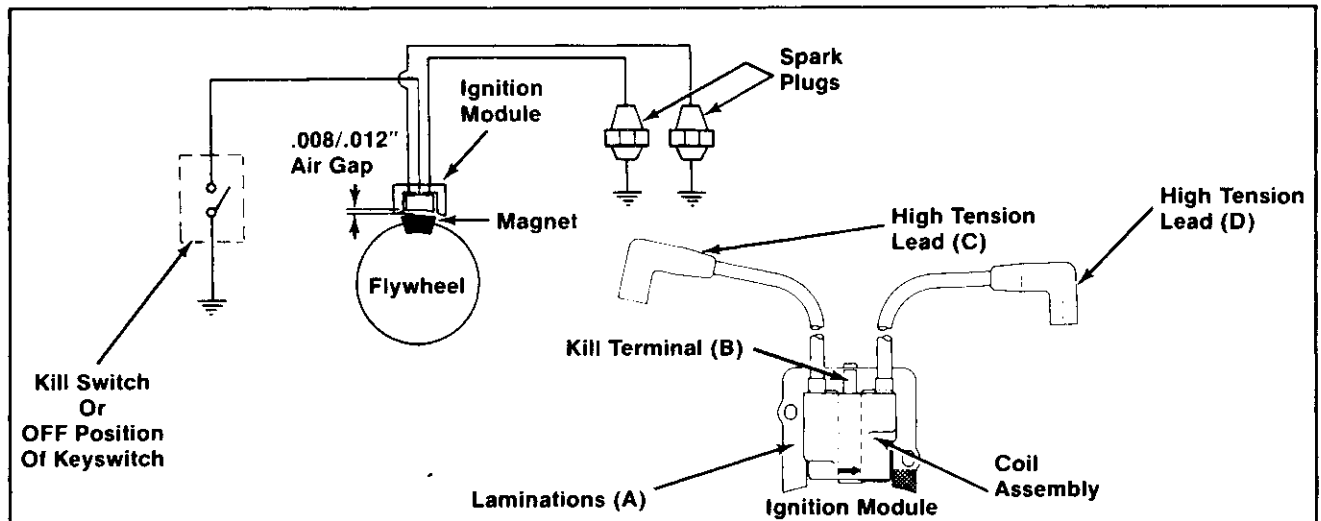

Figure 8-1. Magnum Electronic Magneto Ignition System.
Magnum vertical shaft engines are equipped with a state-of-the-art electronic magneto ignition system. The system consists of the following components (refer to Figure 8-1):
4a. Measure the primary resistance of module using an ohmmeter (refer to figures 8-1 and 8-3): <p style="margin-left: 20px;">Connect negative (-) lead of ohmmeter to kill terminal (B); connect positive (+) lead of ohmmeter to laminations (A). With the ohmmeter leads connected in this manner, the primary resistance should be 5 to 1000 ohms*.</p> <p style="margin-left: 20px;">Reverse the ohmmeter leads. Connect the negative (-) lead to laminations (A); connect the positive (+) lead to kill terminal (B). With the ohmmeter leads connected in this manner, the primary resistance should be 30,000 ohms minimum.</p> <p style="margin-left: 20px;">*NOTE: Resistance may vary, depending on voltage imposed by ohmmeter.</p>	If resistance is low or 0 ohms in both directions, module primary is shorted. Replace module. If resistance is high or infinity ohms in both directions, module primary is open. Check keyswitch/wiring for shorts or connections which could apply 12V to kill terminal B. Correct those conditions, then replace module. If resistance is within range, module primary is OK. Test secondary (Test 4b).